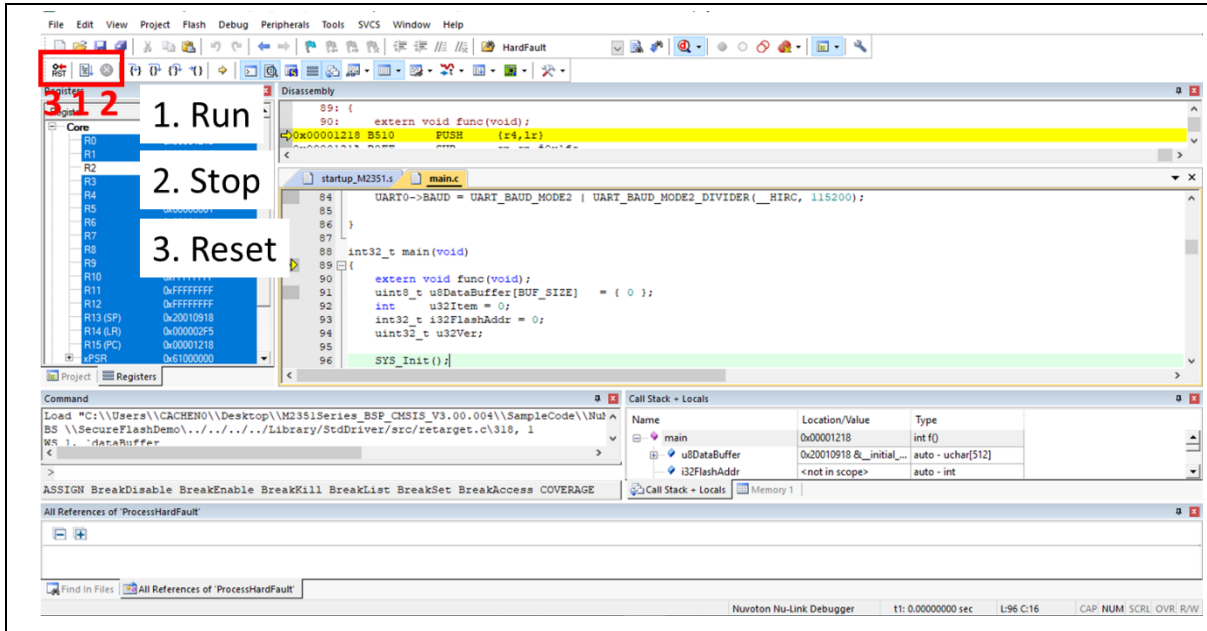
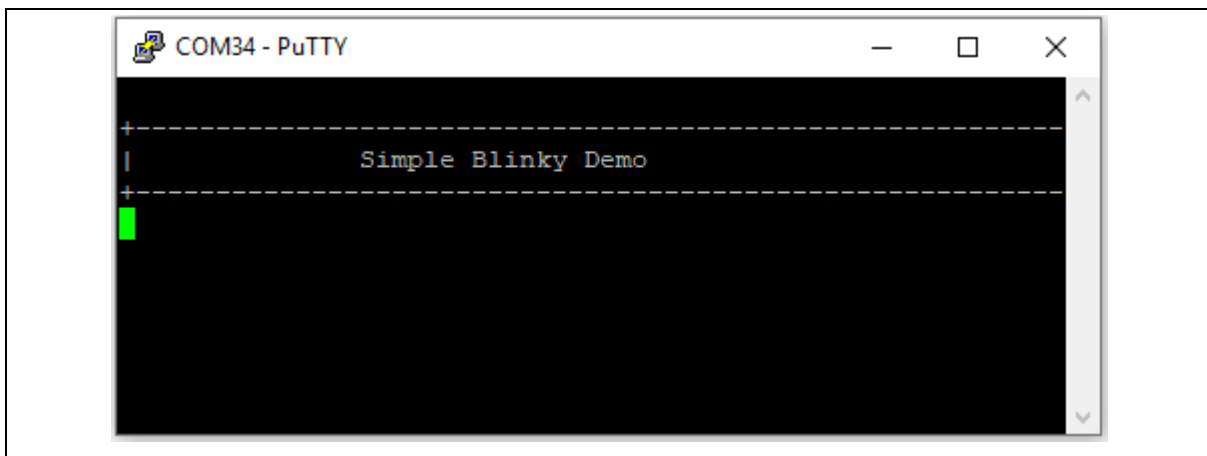

Figure 5-11 Keil MDK Debug Mode
Figure 5-12 Debug Message on Serial Port Terminal Windows
- Figure 5-11 shows the debug mode under Keil MDK. Click “Run” and the debug message will be printed out as shown in Figure 5-12. User can debug the project under debug mode by checking source code, assembly language, peripherals’ registers, and setting breakpoint, step run, value monitor, etc.